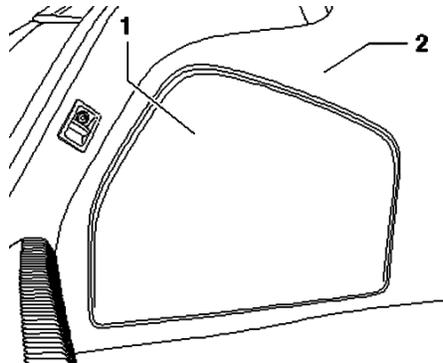

Fig. 1 Service cover removal
4. Remove luggage compartment service cover (1) from side trim panel (2) in direction of arrow, **Fig. 1**.
7. Install luggage compartment service cover (1) to side trim panel (2), **Fig. 1**.